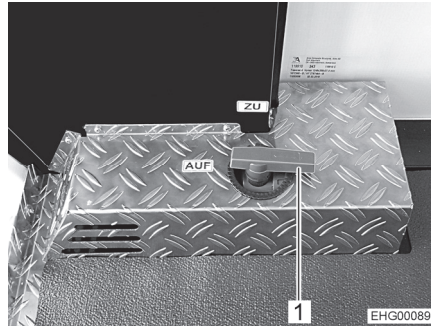

Fig. 194 Operating lever (drain cock)
The operating lever (Fig. 194,1) for waste water disposal is located in the rear garage. The drain pipe with a connection for a waste water hose is located under the vehicle.
- Open the drain cock. In order to do this, turn the operating lever (Fig. 194,1) to the open position ("AUF"). The waste water will run out.
- Close the drain cock again once all of the waste water has run out. In order to do this, turn the operating operating lever (Fig. 194,1) to the closed position ("ZU").